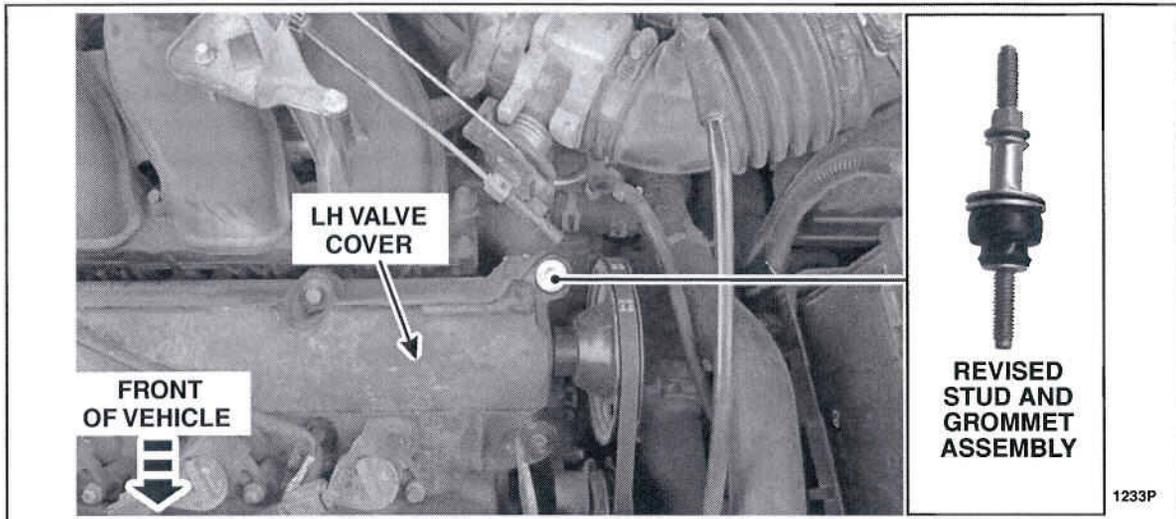

FIGURE 2
3. Remove the original rear stud and grommet assembly from the LH valve cover and install the *new* stud and grommet assembly. See Figure 2.